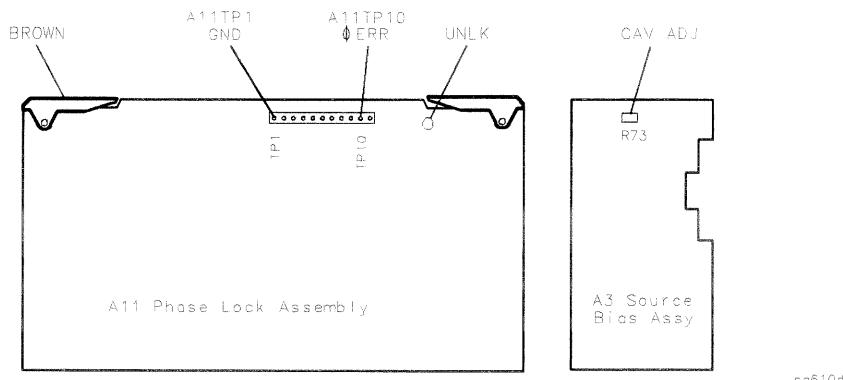
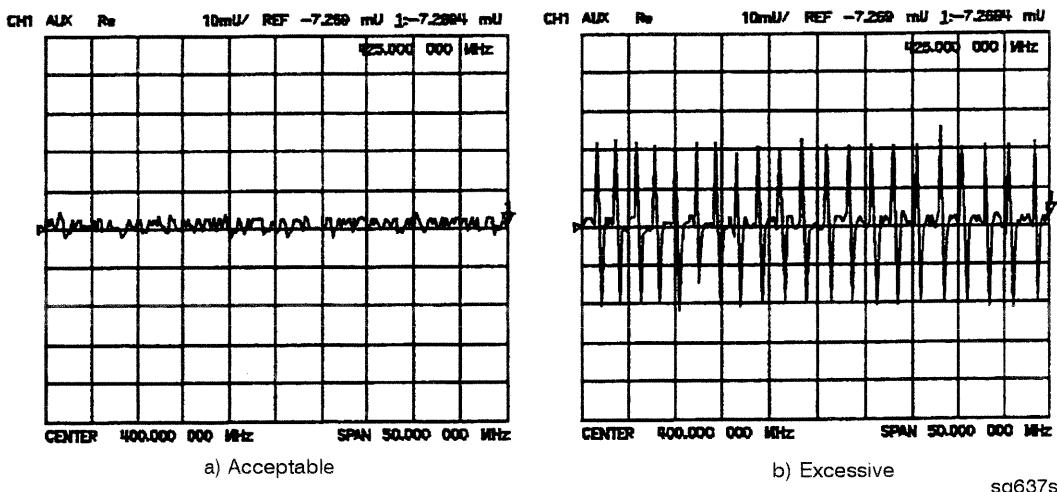

Figure 3-26. Location of A11 Test Points and A3 CAV ADJ Adjustments
Figure 3-27. Display of Acceptable versus Excessive Spikes
1. Mate the adapter to the BNC cable and connect the BNC connector end to AUX INPUT on the HP 8753D rear panel. Connect the BNC center conductor alligator-clip to A11 TP10 (labeled ϕ ERR); the shield clip to A11 TP1 (GND) as shown in Figure 3-26.
- If "Spikes" are not visible on the analyzer display (see Figure 3-27): no adjustment is necessary.
- If "Spikes" are excessive (see Figure 3-27): adjust the CAV ADJ potentiometer (see Figure 3-26) on the A3 source bias assembly to eliminate the spikes.